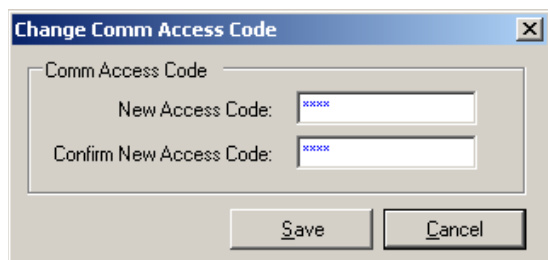

Figure 4-1 Change Comm Access Code Dialog Screen
1. From the IPScom Main Screen menu select **Tools/Security/Change Comm Access Code**. IPScom will display the Change Comm Access Code dialog screen (Figure 4-1).